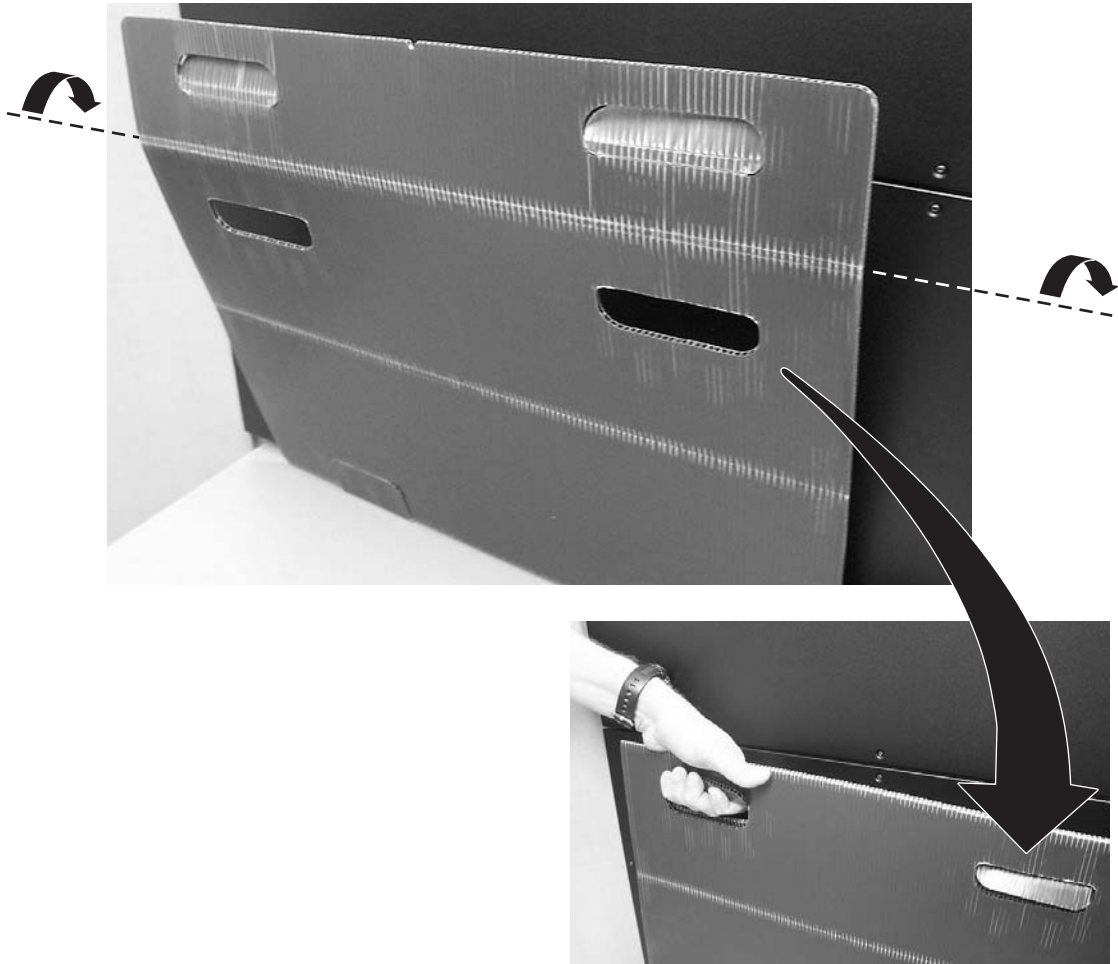

Figure 4-16. Sling
4. With a person on each side of the module, lift the module with the sling provided (see Figure 4-16 on page 4-16 to see how the sling handles should be folded).